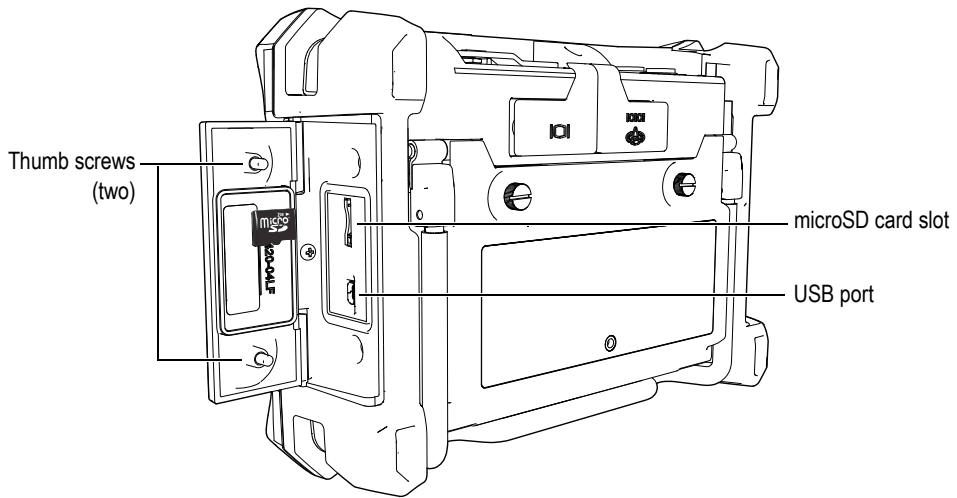

Figure 2-12 Installing the microSD card
2. Loosen the two thumb screws, and then open the BondMaster 600 I/O door (see Figure 2-12 on page 45).